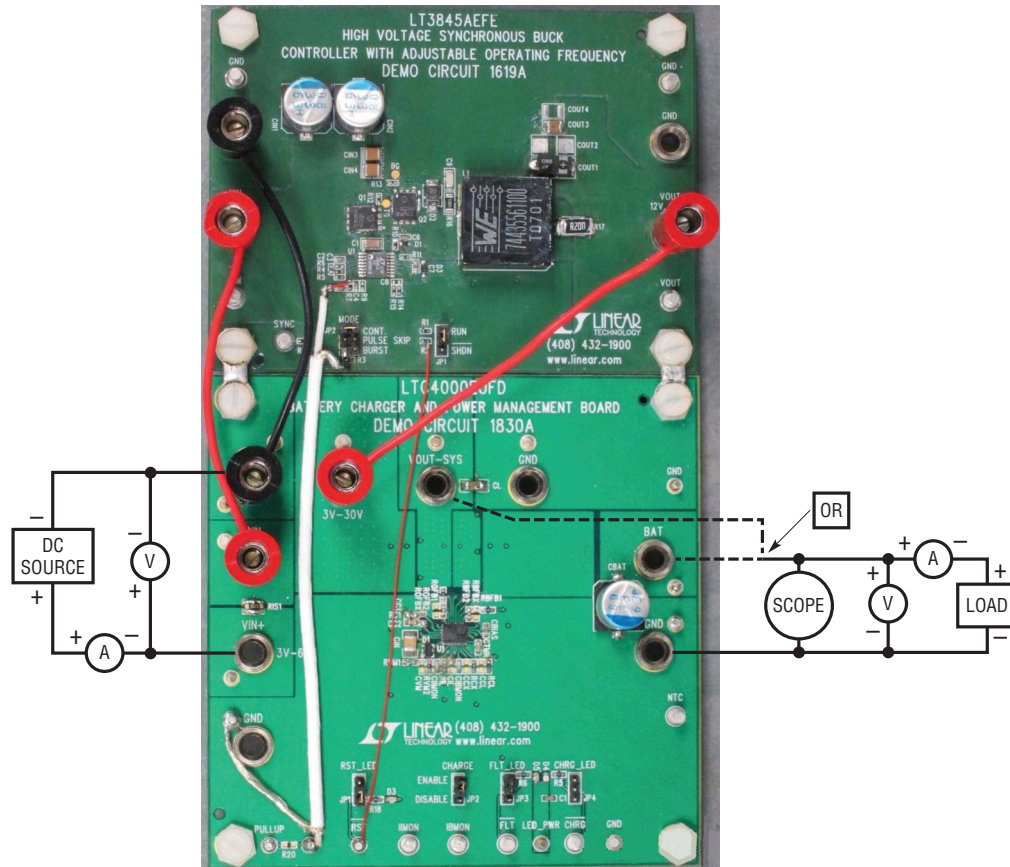

Figure 1. Fixture Connections and Measurement Equipment Setup
Once the circuit has been customized to suit the application at hand, it is easy to set up to evaluate the performance of the LTC4000 when combined with a suitable switching power converter, such as the LTC3845A. See page 9 for the modified DC1619A/LTC3845A schematic. Voltages and currents cited in this procedure are for the design as delivered; if the design has been customized, substitute the appropriate values. Refer to Figure 1 for proper measurement equipment setup and follow the procedure below:
- b. If efficiency measurements are desired, refer to Figure 1 for the test setup.